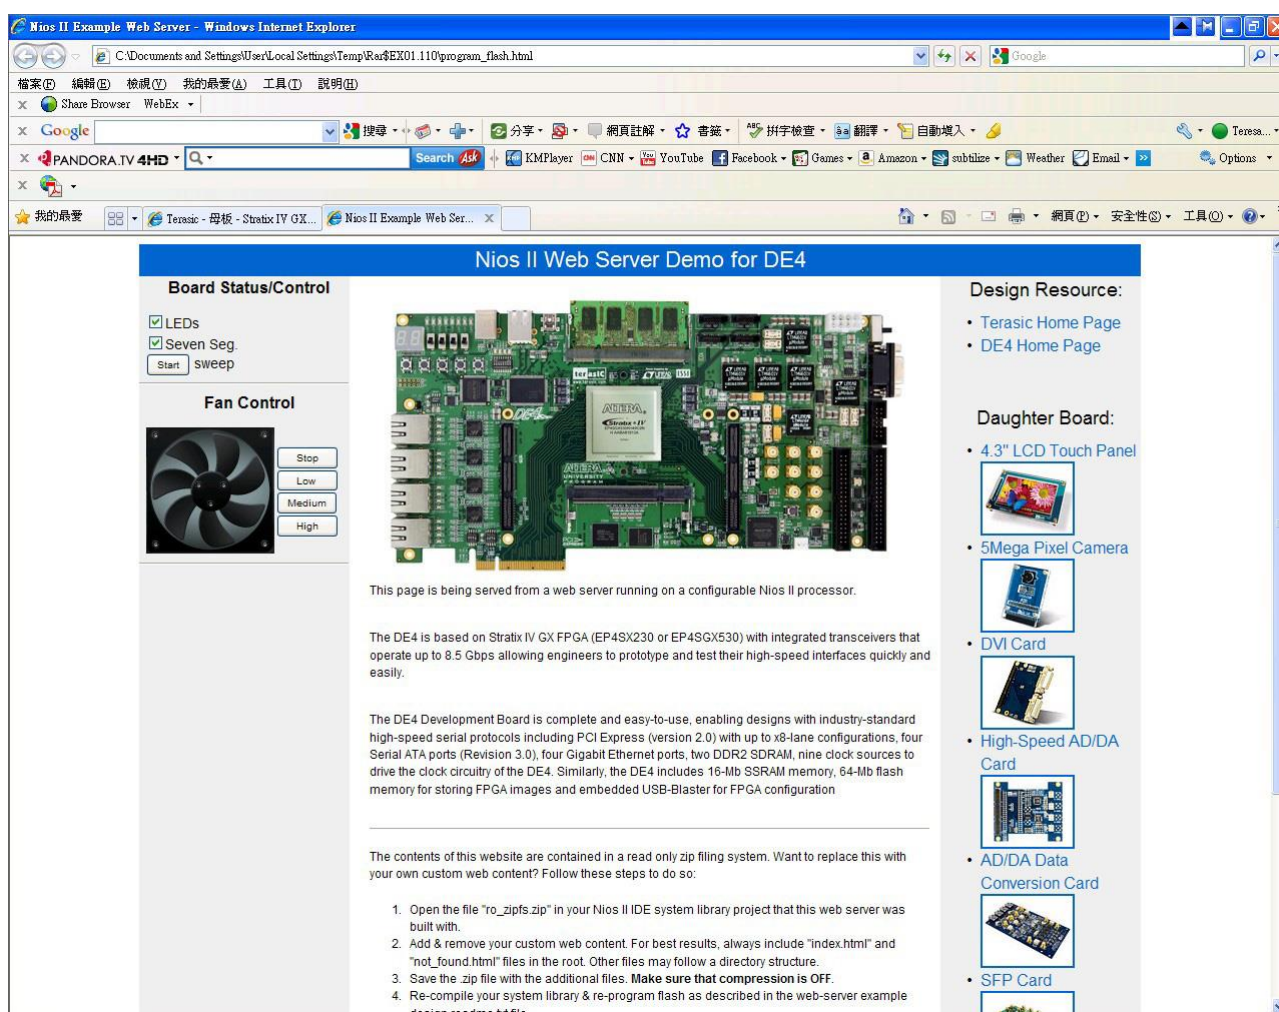

Figure 5–39 DE4 Webserver IE Window
- You will see the brand new DE4 web page on your computer illustrated in **Figure 5–39**.
- Make sure a SATA cable (provided in the DE4 package) is connected between SATA-host-A and SATA-device-A. Similarly a SATA cable is connected between SATA-host-B and SATA-device-B as shown in **Figure 5–40**.